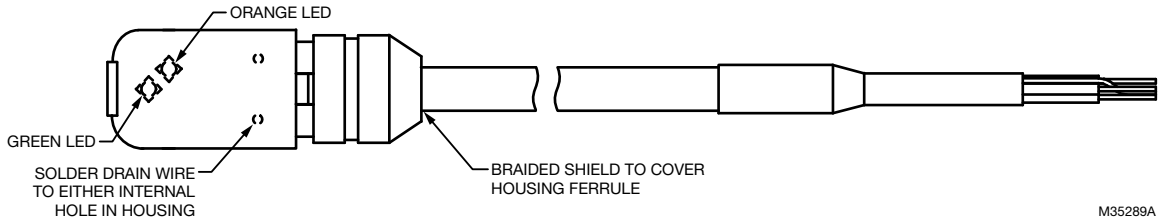

Fig. 6. Soldered Drain Wire Location.
- c. Solder drain wire to housing at one of two holes at entry (see Fig. 6).